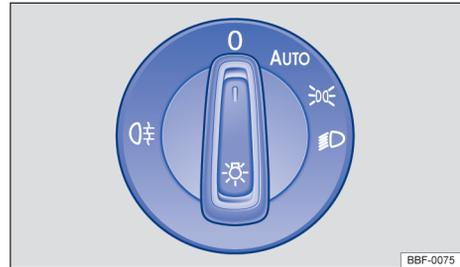

Fig. 71 Next to the steering wheel: light switch (one variant).
- **Switch rear fog light on** : Pull the light switch out → Fig. 71. The control light  lights up in the instrument cluster in yellow.